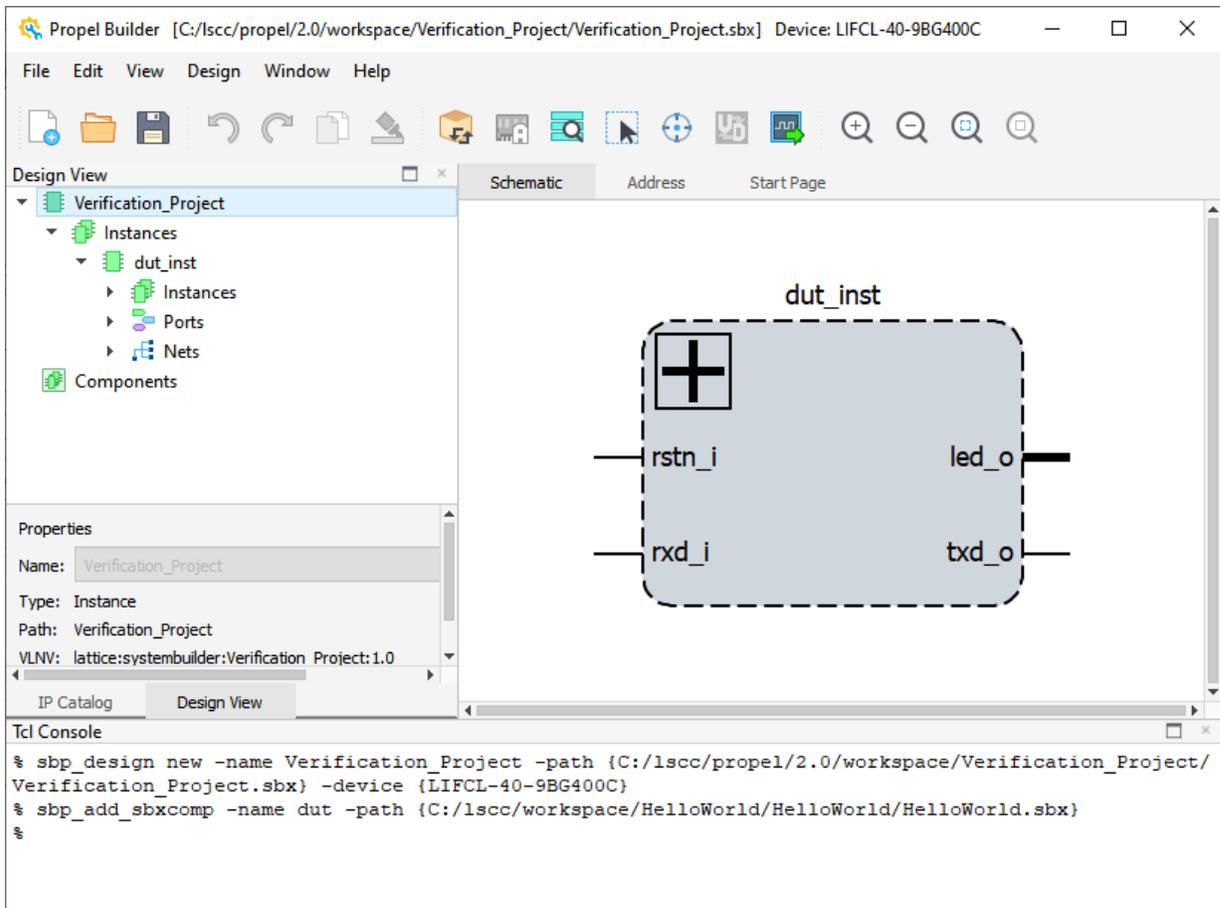

Figure 2.64. Verification Project
9. Click **Finish**. A dut\_inst of SoC project can be seen in the Schematic view (Figure 2.64).